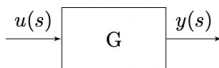

Figure 1: Transfer function block
2. The Laplace transforms above may be considered as the signals $y(s)$ coming from a transfer function which takes an input $u(s)$, transforms it, and provides an output $y(s)$, as shown in Figure 1.